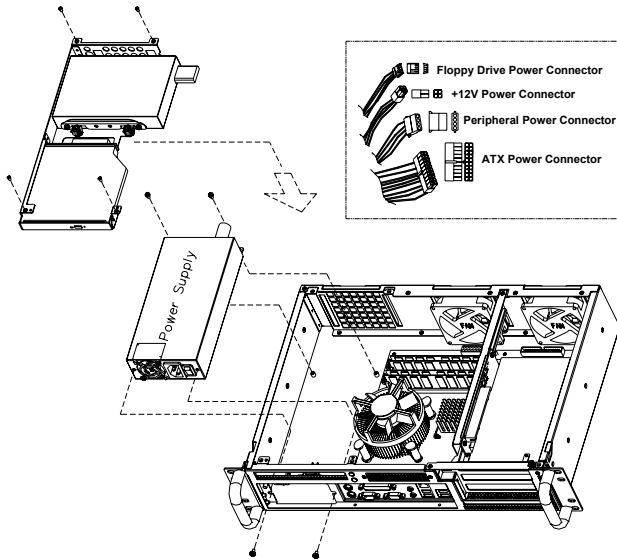

Figure 3-3 Changing the power supply
IPC-603MB supports a single 1U-high power supply. To change the power supply, refer to Figure 3-3 and proceed as follows:
4. Refer to Figure 3-3 to remove the drive bay above the power supply.
5. Refer to Figure 3-3 to remove the six screws, which mount the power supply to the chassis, then lift the power supply.